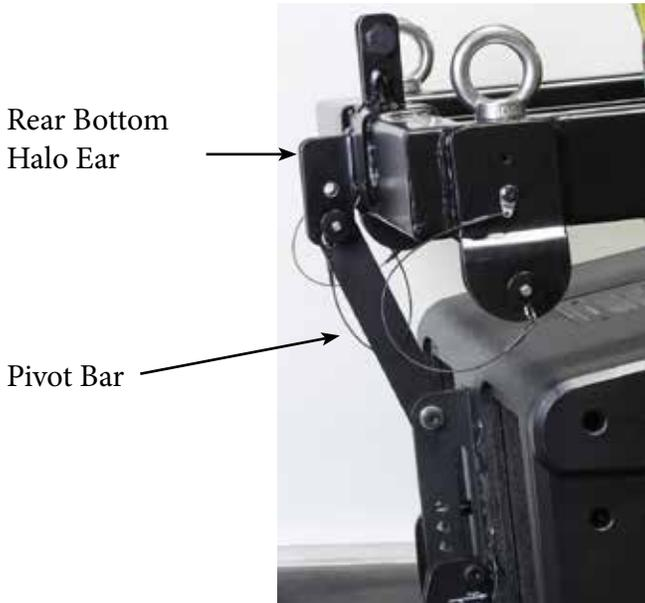

Figure 3
3. Remove the Pivot Bar hole pin, swing pivot bar up to mate with the center rear bottom Halo ear hole. The bottom hole on the Halo ear provides a zero angle between the Halo and the first cabinet, the upper hole an angle of 5 degrees between the Halo and the first cabinet. Pin the Pivot Bar to the desired hole using the pin from the Halo. See Fig. 3